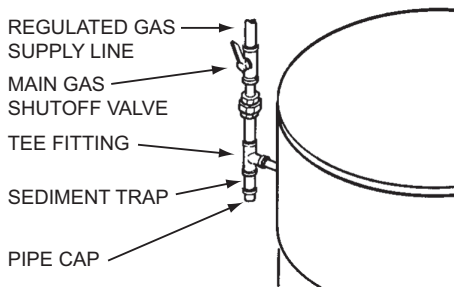

Figure 54. Supply Gas Line Installation
Ensure all gas pipe is clean on the inside before installation. To trap any dirt or foreign material in the gas supply line a sediment trap must be installed as shown in **Figure 54**. The sediment trap must be readily accessible and not subject to freezing conditions. Install in accordance with the recommendations of the local gas utility company.
7. Install a sediment trap as shown in *Figure 54* (page 40).
8. Install a Main Gas Shutoff valve in the supply gas line as shown in *Figure 54* (page 40).
1. For test pressures exceeding 1/2 psi (3.45 kPa) disconnect the water heater and its Main Gas Shutoff Valve from the gas supply piping system during testing, see *Figure 54* (page 40). The gas supply line must be capped when disconnected from the water heater.